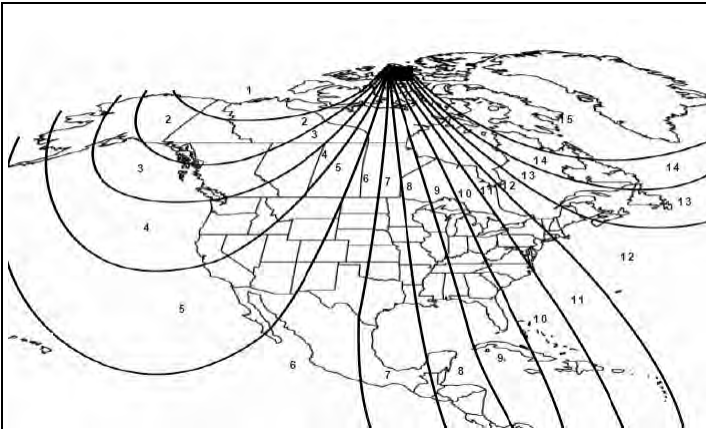

Figure 34
- (b) Refer to the Zone Map and toggle button until correct zone is displayed. See figure 34.